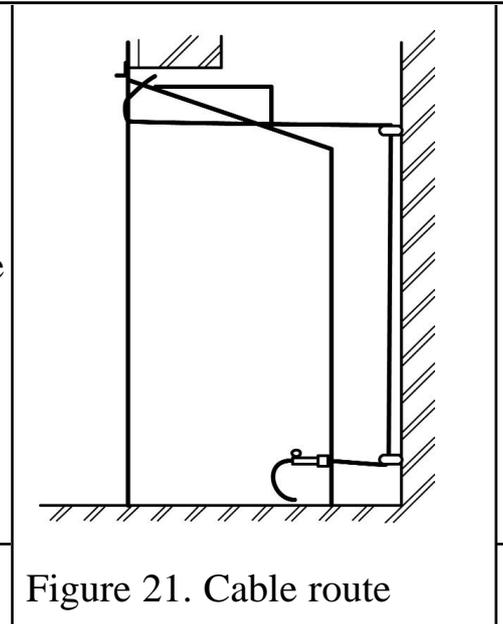

Figure 21. Cable route
6. Thread the cables through the eyebolts. Return the cables through the holes near the bottom of the hotbox back panel (See figure 21). (**For precast or clay block flue systems return the cables through the slotted holes in the side of the hotbox**).